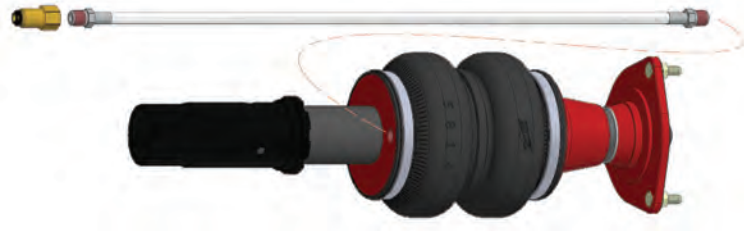

fig. D.7
1. Begin by installing the leader line into the air spring. Tighten the appropriate fitting to the air line (1 3/4 turns beyond hand-tight). Tighten the leader line into the air spring 1 3/4 turns beyond hand-tight (Fig. D.7).